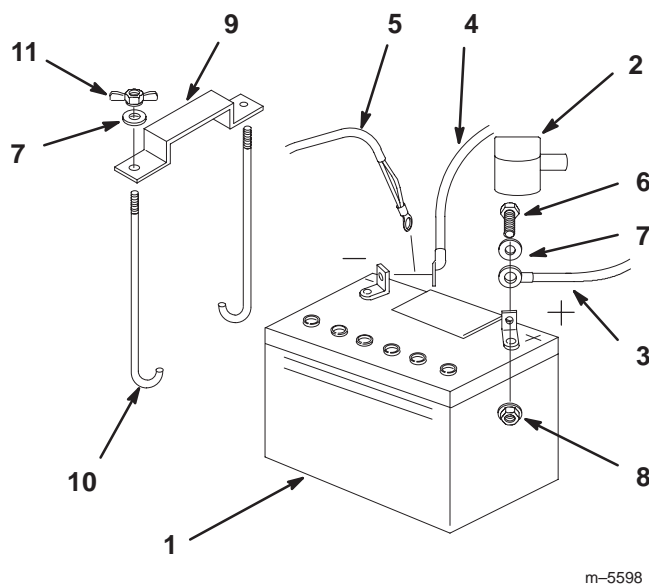

Figure 61
1. Position battery in tray with terminal posts toward the engine (Fig. 61).
4. Secure cables with 2 bolts (1/4 x 3/4 inch), 2 washers (1/4 inch), and 2 locknuts (1/4 inch) (Fig. 61).
6. Secure battery with J-bolts, hold down clamp and 2 washers (1/4 inch), and 2 wing nuts (1/4 inch) (Fig. 61).
3. First disconnect the negative battery cable and ground wire from the negative (–) battery terminal (Fig. 61).
4. Slide the red terminal boot off the positive (red) battery terminal. Then remove positive (red) battery cable (Fig. 61).
5. Remove both wing nuts (1/4 inch) securing the battery clamp (Fig. 61).